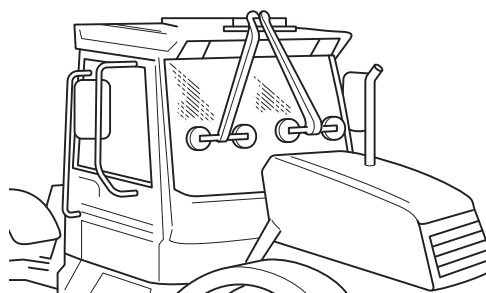

Fig 15. Typical M/c. Installation
- a Always use the special lifting tools when moving the glass. Use a lifting strap to hold large panes of glass in position. ⇒ Fig 15. \(□ B-46\)